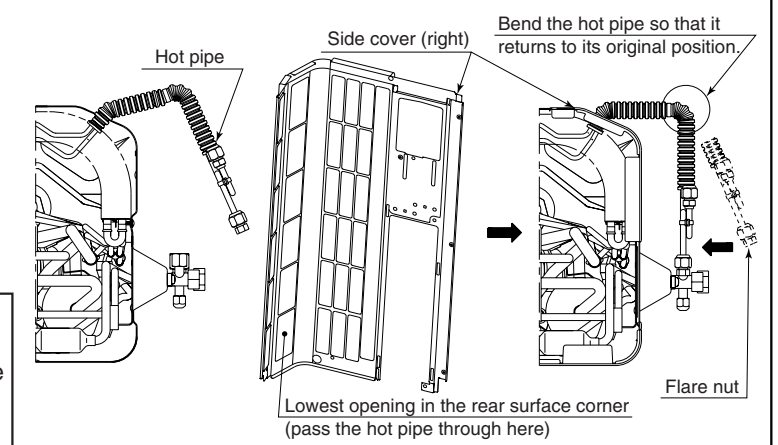

Figure 8
9. Pass the hot pipe through the lowest opening in the rear surface corner of the side cover (right), and move the side cover (right) along the hot pipe until it is in the installation position (figure 8). Then bend the hot pipe again so that the flare nut and hot pipe is returned to its original position (figure 8).